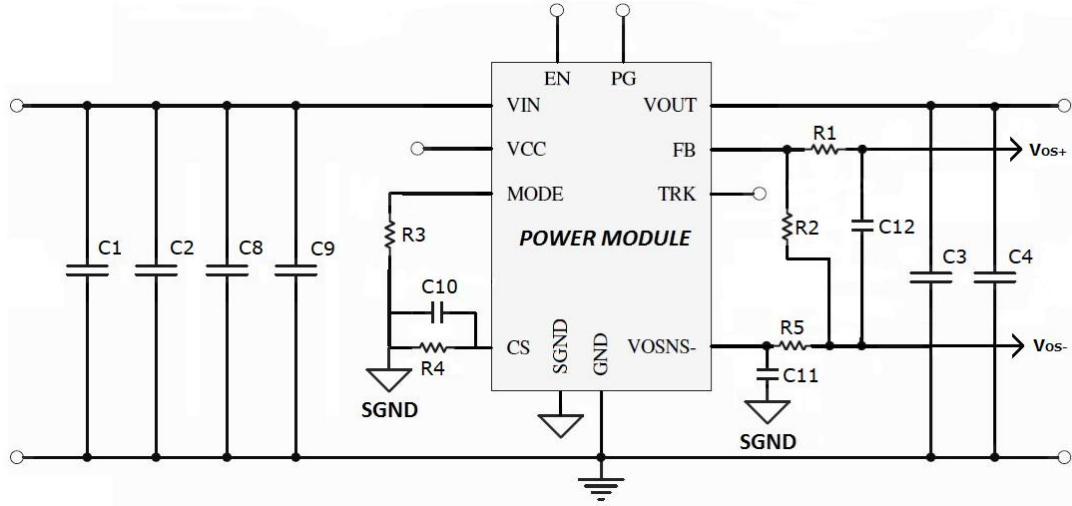

FIG.28 LAYOUT GUIDE SCHEMATIC
- 2、 For lower noise coupling of the differential output voltage remote sense function, an C filter (C12-100pF) must be in place between Vos+ and Vos-, an R-C filter (R5-2ohm, C11-100pF) must be in place within the path of Vos-, VOSNS- and SGND. Refer to Fig.28 for the exact circuitry